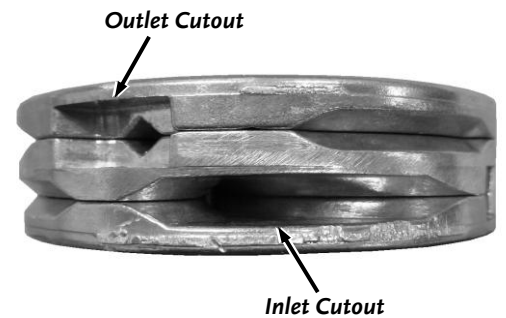

Figure 36
7. Assemble the Plates ensuring that they are aligned properly and the Springs and Cams are seated fully into the Plate grooves. The four Screw holes must be aligned and the two halves of the side cutouts should align from Plate to Plate (**Figure 36**).